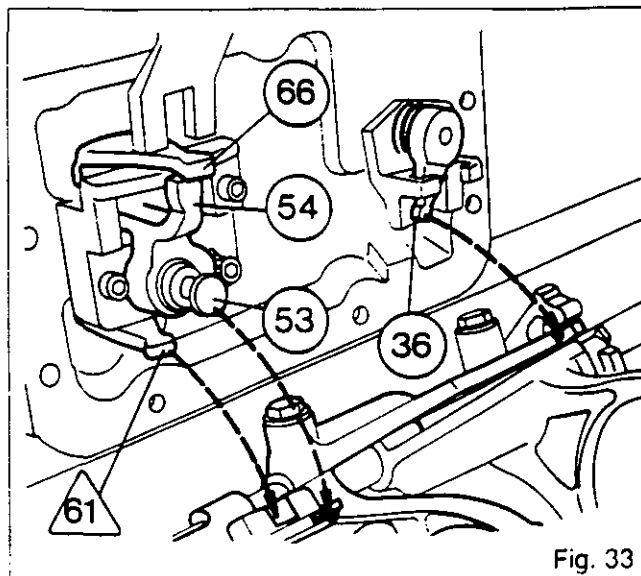

Fig. 33
108. Offer up the cover to the gearbox, engaging fingers (54), (66) in the reverse selector fork and finger /61\ in the A/B fork, and then engage actuating finger (36) in the 1st/2nd gear fork and the mechanical locking gate (Fig.33).